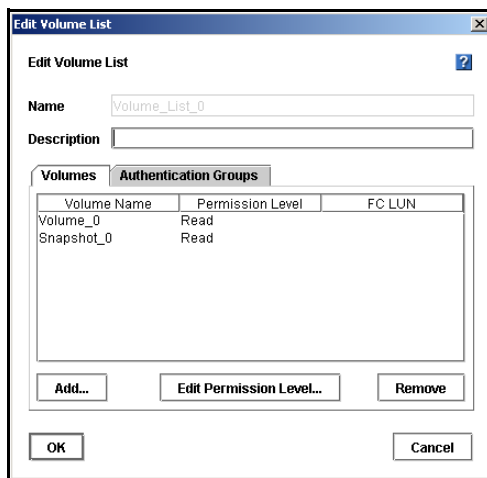

Figure 209. Opening a Volume List to Edit
The Edit Volume List window opens, shown in Figure 209.
6. In the Edit Volume List window, shown in Figure 209, select the Authentication Group tab.
1. In the Edit Volume List window, shown in Figure 209, on the volumes tab, select the volume or snapshot you want to remove from the volume list.